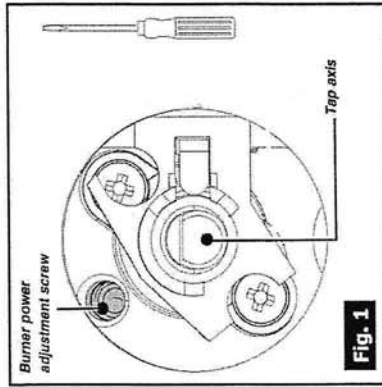

Fig. 1
- Using the spanner supplied, unscrew the injectors at the bottom of each dish and remove them (fig 1).
- Using a small flat-head screwdriver, screw in the brass burner-power screws (yellow) **all the way**, (fig. 1.) **screwing them in a clockwise direction.**